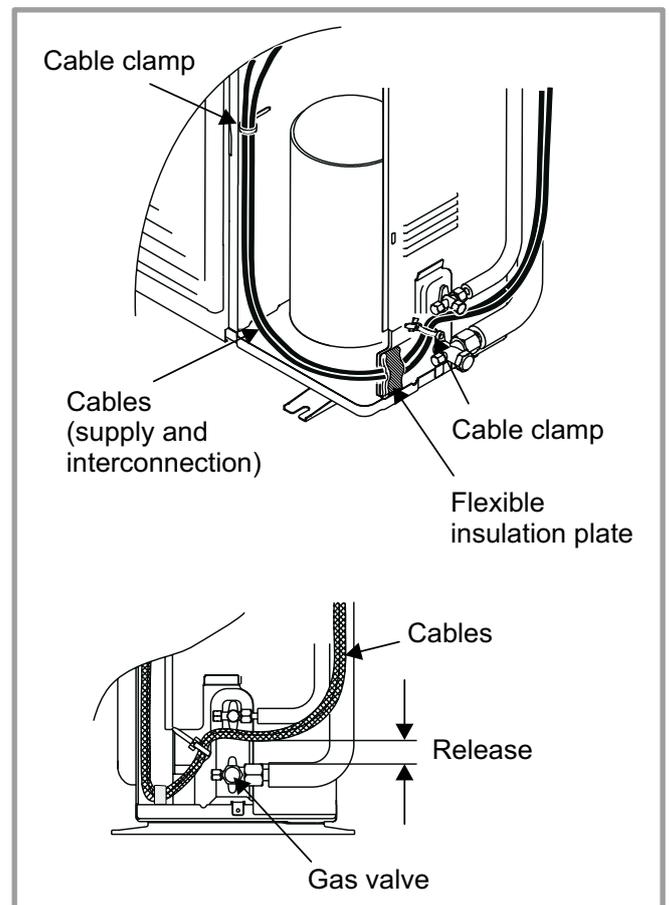

figure 27 - Finalisation of connection to outside unit
- Fill in the space where the cables enter the outdoor unit with the insulating plate (figure 27).